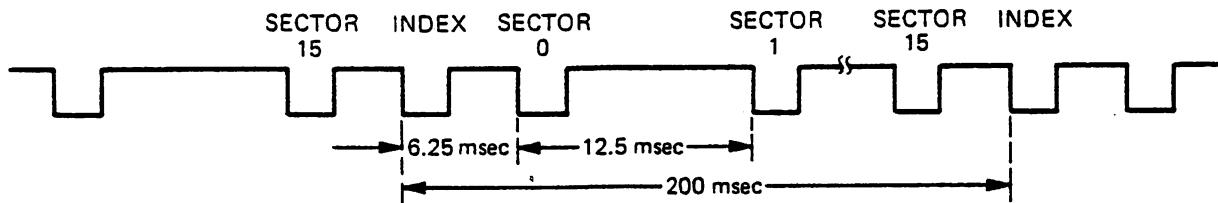

Figure 2-7. Index/Sector Timing
2.4.2.2 Index/Sector. For soft sector operation using a single hole media, this line transmits a reference pulse once every revolution indicating the beginning of a track. For hard sector operation using multi-hole media, this line transmits Index/Sector pulses where Sector pulses indicate the beginning of a sector. Pulse width for both Index and Sector is  $4 \pm 1.5$  milliseconds. Two sets of photosensors are located on Model 82 assembly enabling either side of the diskette to be recorded. Figure 2-7 shows the Index/Sector timing.